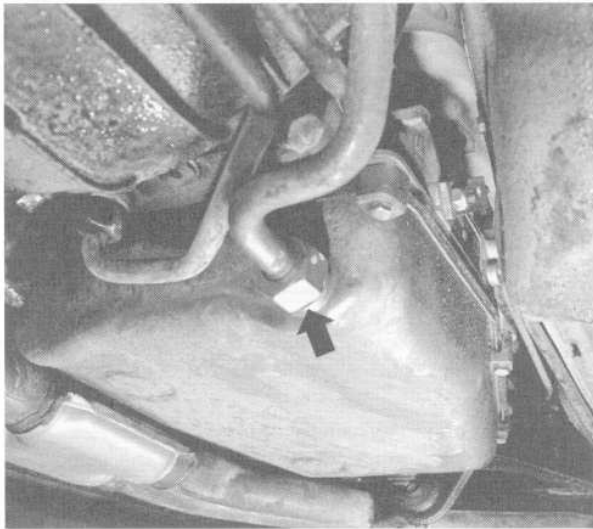

Fig. 21. Oil filler pipe (arrow) on 4HP 22 transmission.
3. Disconnect oil filler pipe from oil sump. See Fig. 21.